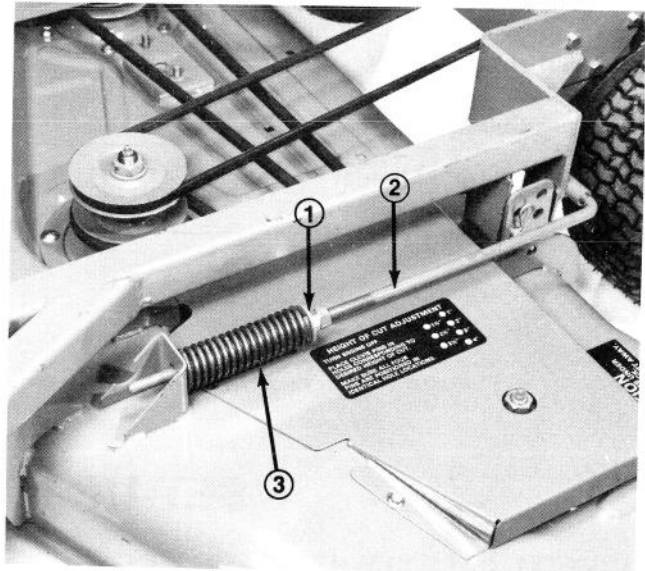

Figure 4
1. Loosen jam nuts, springs and spacers on adjusting rods (Fig. 4), allowing deck to be moved rearward for belt installation.
length  $3/16''$  longer than spacers inside of springs (Fig. 4). Secure rear jam nuts.